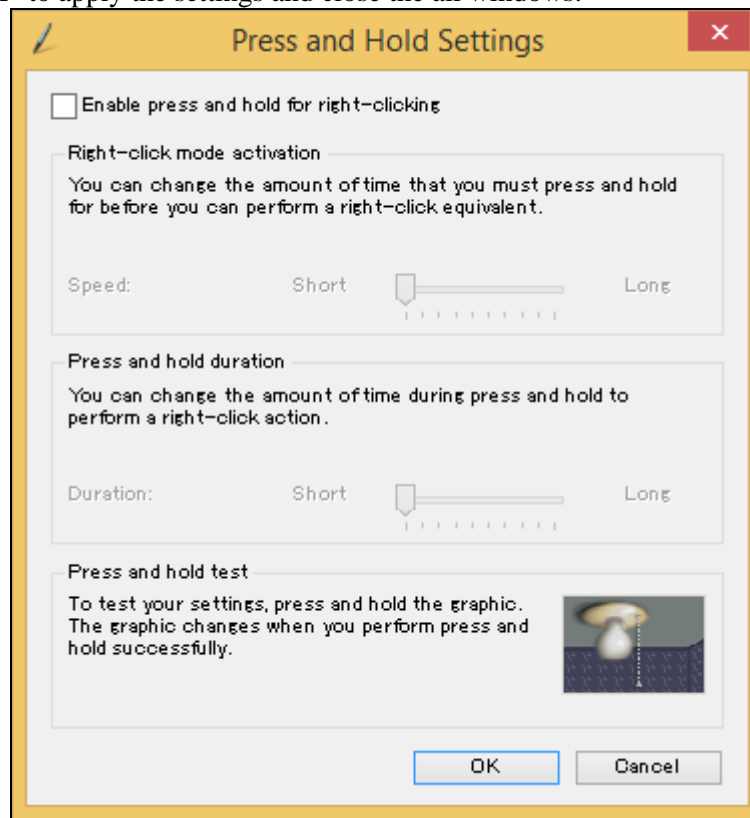

Fig. 16.6.4 Press and Hold Settings
- Set the slider of “Speed:” and “Duration:” to the extreme left like Fig. 16.6.4.